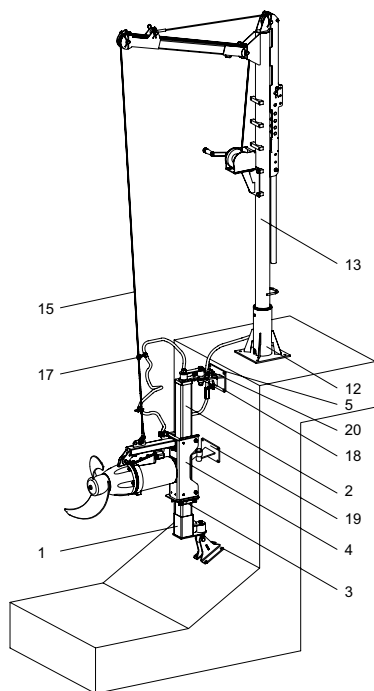

Fig. 8 Installation of AMD and AMG mixers
Position numbers in figures 8 and 9
12. Fasten the depth blocker (pos. 3) in the right position.
15. Mount the lifting wire (pos. 15) on the motor bracket using the shackle. See fig. 8.
16. Mount the top end of the safety wire to the hole (pos. 31) of the top fixation bracket using a shackle. The other end of the safety wire ends in a shackle through which the lifting wire must run.